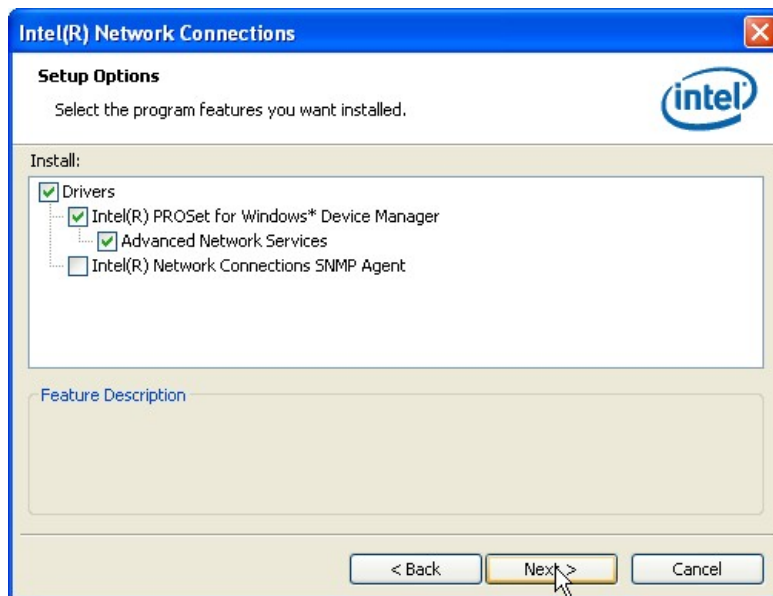

Figure 6-16: LAN Driver Setup Options
Step 11: The **Setup Options** screen in **Figure 6-16** appears.